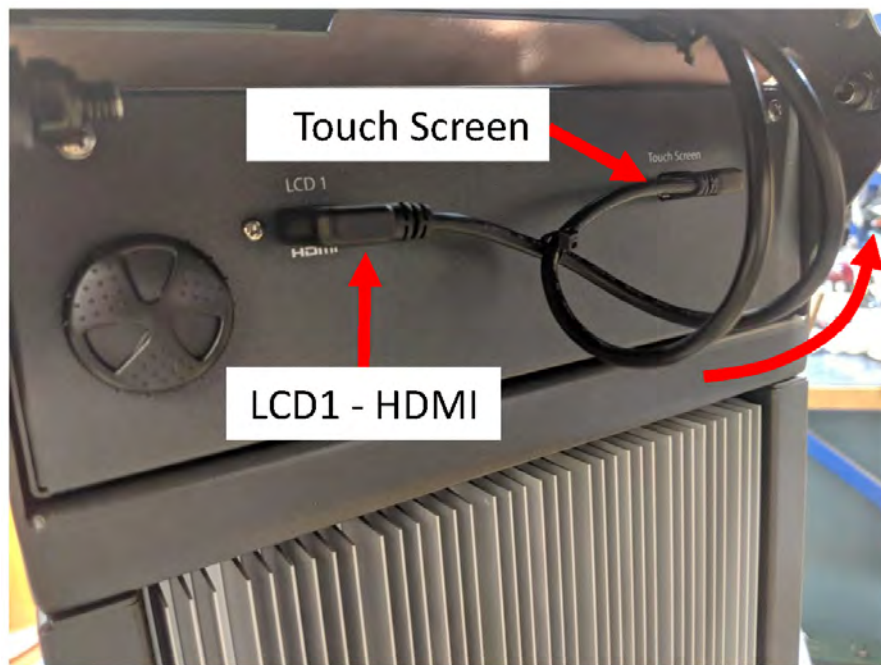

Figure 16-24 Touch Screen and LCD1 Connector Locations
1. Rotate the touch monitor to the full back position to expose the touch screen and LCD1 connectors (refer to Figure 16-24).